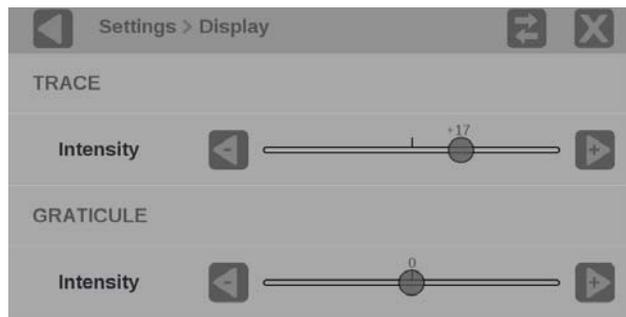

Figure 69: Trace and graticule intensity sliders
3. Use the ➡️ icon to increase intensity or the ⬅️ icon to decrease intensity of the trace or graticules. (See Figure 69.)